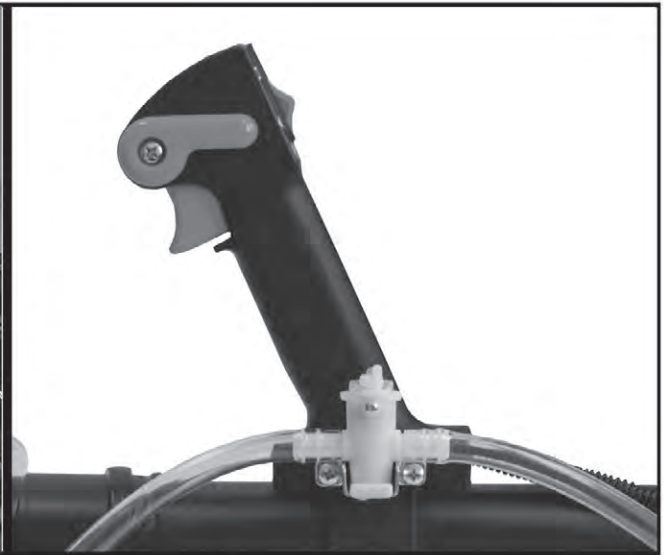

FIGURE 4
2. **Water Speed**- To adjust the speed of water use the accelerator to increase blower speed. See Figure 4.